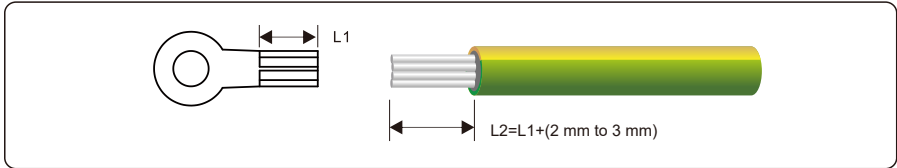

Figure 5.1 Stripped length (unit: mm)
Step 1 Use a wire stripper to strip an appropriate length of insulation from the PGND cable, which is 2 mm to 3 mm longer than the crimped end of the OT terminal, as shown in Figure 5.1.